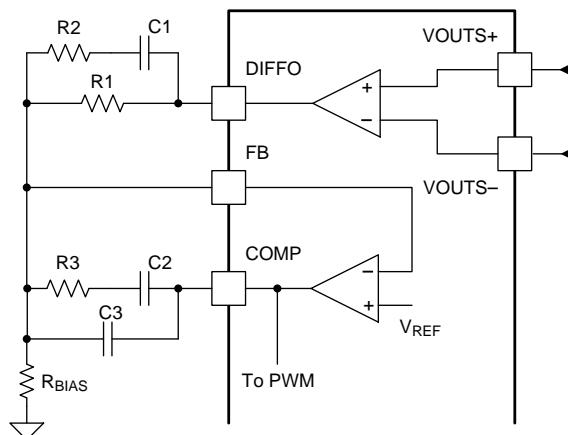

Figure 33. Output Voltage Setting
The TPS544x25 devices implement a differential remote sense amplifier to provide excellent load regulation by cancelling IR-drop in high current applications. The VOUTS+ and VOUTS- pins should be kelvin-connected to the output capacitor bank directly at the load, and routed back to the device as a tightly coupled differential pair. Ensure that these traces are isolated from fast switching signals and high current paths on the final PCB layout, as these can add differential-mode noise. Optionally, use a small coupling capacitor (1-nF typical) between the VOUTS+ and VOUTS- pins to improve noise immunity. The output of the differential remote sense amplifier (DIFFO) is used for output voltage setting and error amplifier frequency compensation local to the device as shown in Figure 33.
A voltage divider from the DIFFO pin to the FB pin is typically required to set the nominal output voltage like the one formed by R_1 and R_{BIAS} resistors shown in Figure 33. To allow PMBus devices to map between the commanded voltage and the voltage at the control circuit input (V_{OUT} divided down to match a reference voltage), the device uses the VOUT SCALE LOOP command.
- $V_{OUT_SCALE_LOOP} = R_{BIAS}/(R_{BIAS}+R1)$ (as shown in Figure 33) (1)